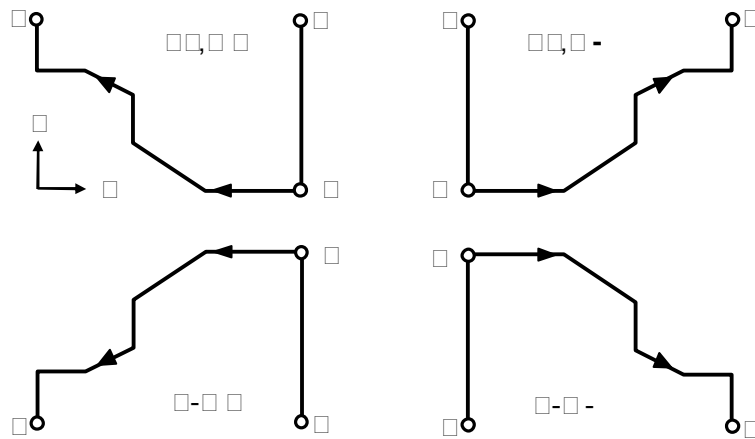

Fig. 3-34 G71 Rough Cut Canned Cycle
- (1) N(ns)~N(nf) specify the machining path of A1~B.
- (2) A maximum of 50 blocks can be inserted from N(ns) to N(nf).
- (3) No subprogram is available from N(ns) to N(nf).
- (4) No assignment of positioning commands on Z-axis is allowed from A to A1.
- (5) The feed-rate from A to A1 is either G00 or G01.
- (6) The X and Z tool path from A1 to B must be incremental or decremental.
- (7) The cutting depth U(Δ d) and retraction amount of rough cut R(e) are modal codes. They remain valid until another value is specified.
- (8) G71 is applicable to the following four cutting types. They are all parallel to the Z-axis. Whether U and W are positive or negative (Fig. 3-34) is determined by the direction of tool path.